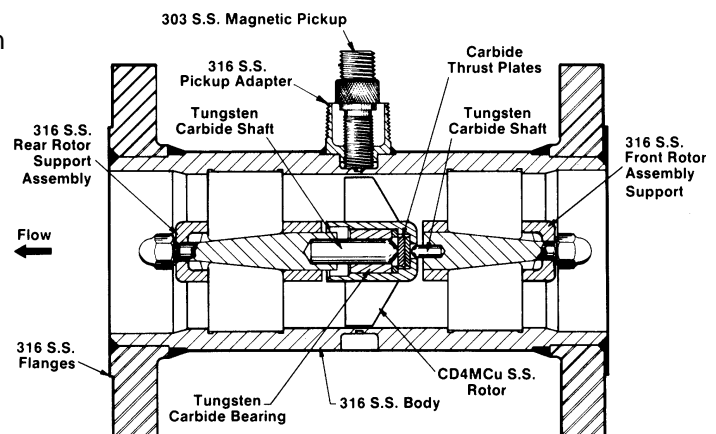

Figure 5
Size 4 Inch (Figure 5)**
- 6) For installation in older bodies (prior to December 1, 1970), which are not grooved, the sliding vane can be turned upside down (Figure 5) so the ear is buried in the support.